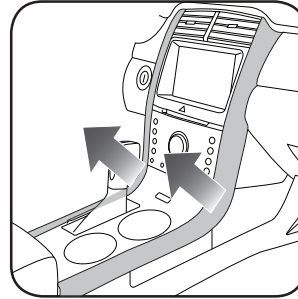

Fig. 1.1
1. Unclip and remove the two (2) trim panels at the left and right of the OEM radio. (Fig. 1.1)